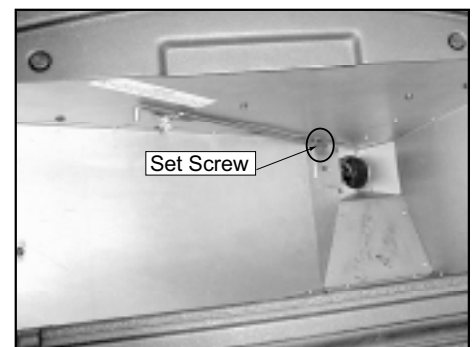

Figure 22.2
1. Loosen the set screw 1/4 to 1/2 turn during set-up of appliance. This will allow movement of the feed adjustment control rod. Do not re-tighten set screw. **Figure 22.2.**